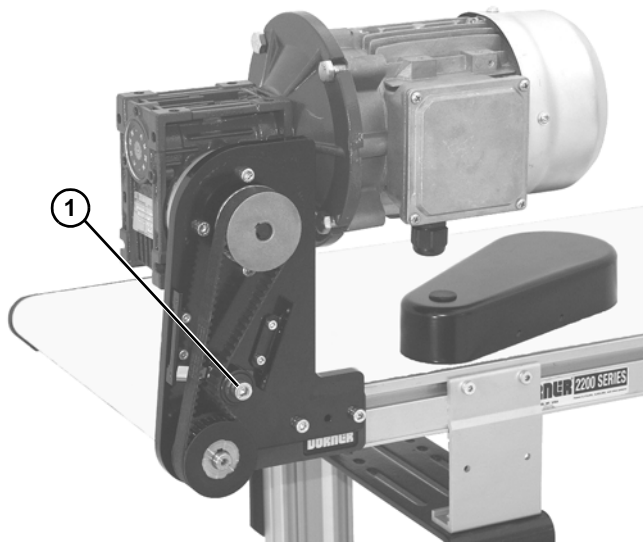

Figure 21
2. Loosen tensioner (Figure 21, item 1).
2. Loosen tensioner (**Figure 21, item 1**).